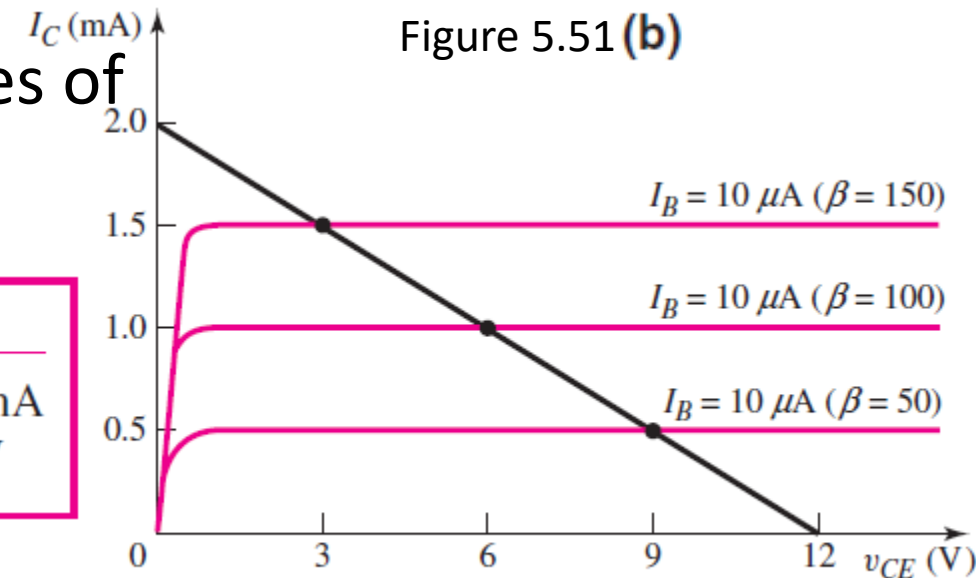

Figure 5.52 (b)
- The 3  $Q$ -points are plotted on the load line shown in Figure 5.52(b).